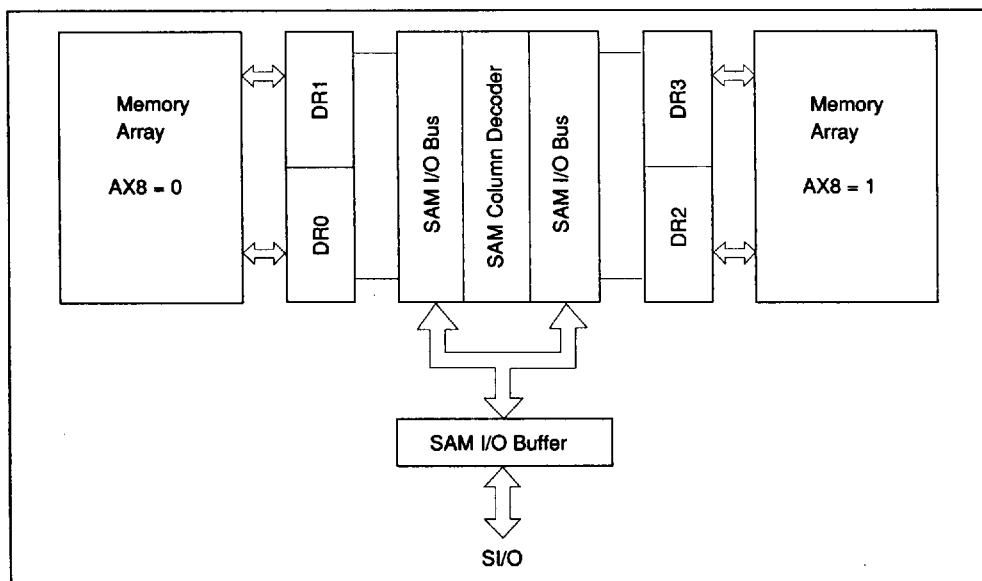

Figure 4 Split Transfer Block Diagram
Figure 4 shows the block diagram for the normal split register operation. SAM data register (DR) consists of 2 split buffers, whose organizations are 256-word $\times$ 8-bit each. Suppose that data is read from upper data register DR1. (The row address AX8 is 0 and SAM address A8 is 1.) When split read transfer is executed setting row address AX8 to 0 and SAM start addresses A0 to A7, 256-word $\times$ 8-bit data is transferred from RAM to the lower data register DR0 (SAM address A8 is 0)